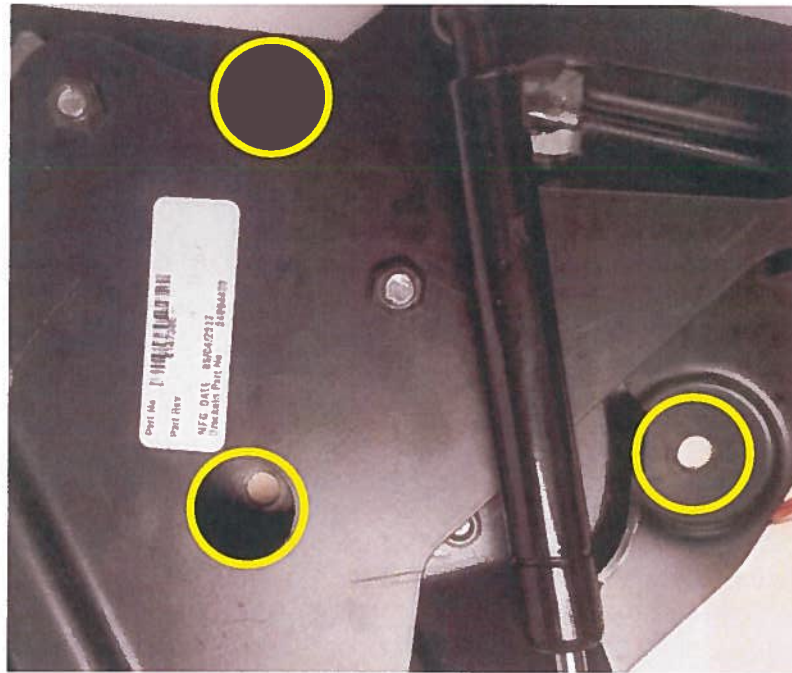

Figure 2 – Parking Brake Assembly (Fastener)
3. Using a 1/2 inch socket, remove the foot park brake pedal from the side of the DCM by removing and retaining the three fasteners indicated by the circles in Figure 2.